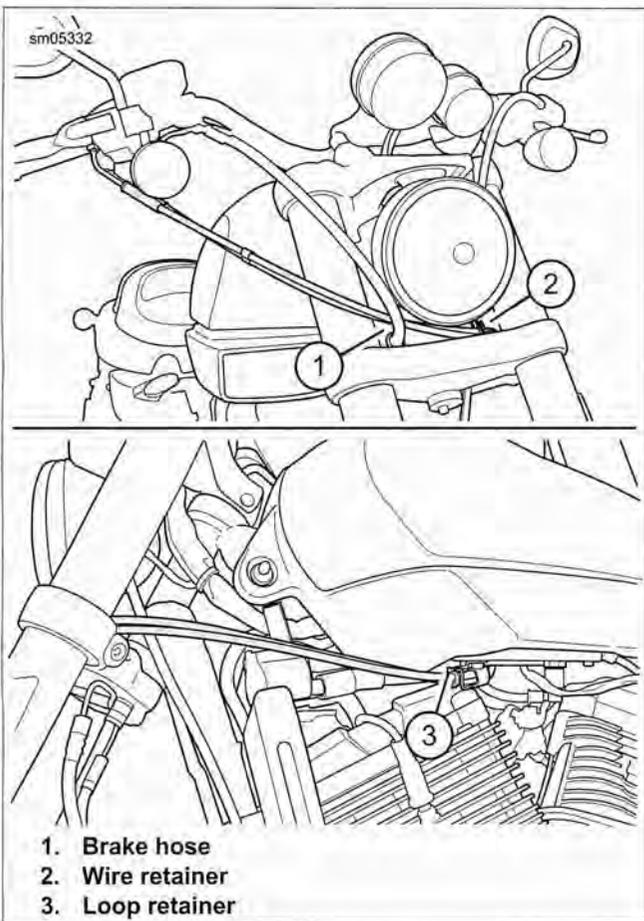

Figure 2-178. Throttle Control Cable Routing: XR 1200X
9. Unhook ferrules (1) and cables (2, 3) from throttle control grip (12) and lower housing (11).
10. **XR 1200X:** See Figure 2-178. Disengage cables from retainer (2) on lower fork bracket. Disengage cables from loop retainer (3) located under fuel tank.
7. **XR 1200X:** See Figure 2-178. Route cables forward between right fork and brake hose (1), then back between the forks above the lower fork bracket. Pass cables through wire retainer (2) on lower fork and continue above the front cylinder toward the induction module.
15. **XR 1200X:** See Figure 2-178. Secure cables in loop retainer (3) and attach retainer to the bottom of the fuel tank.